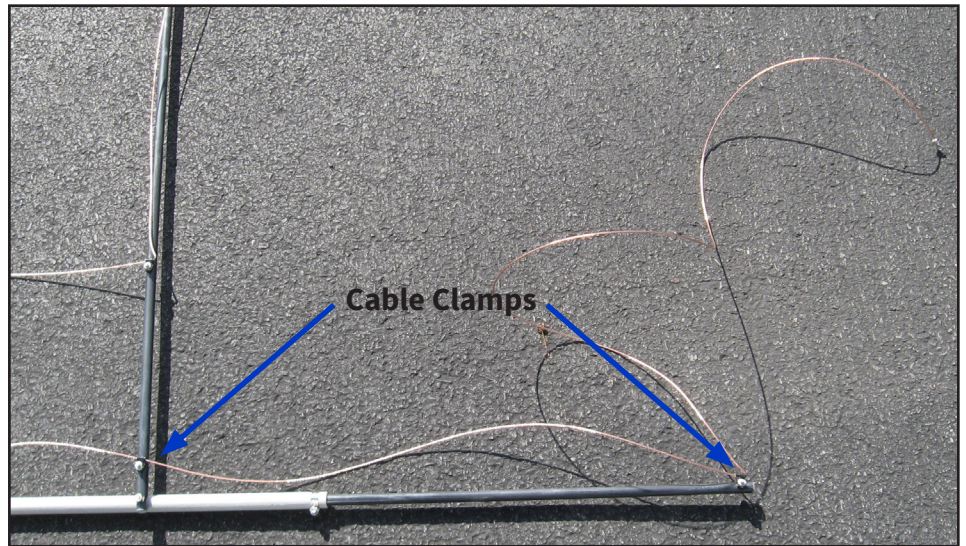

Fig. 79
- Select the remaining Wire Assembly that is labeled **17D**. Repeat the previous six (6) steps to install the other 17M Driven Element.
- Select the Wire Assembly that is labeled **20R**. This is the 20 M Reflector Element. Carefully unwrap the wire bundle. Note that the wire is folded back upon itself at both ends. These are the outside ends of the element. Where the wire is folded back upon itself, this is the point on the wire where the Black Cable Clamp is located. **At the Reflector End of the antenna**, temporarily remove the two (2) 10-24 SS Anti-vibration Hex Nuts and Black Cable Clamps, then insert the wire in both as shown in Fig. 79. Replace the Black Cable Clamps with wire and the Hex Nuts on the Machine Screws and tighten well. Position the Black Cable Clamps as shown in Fig. 79.